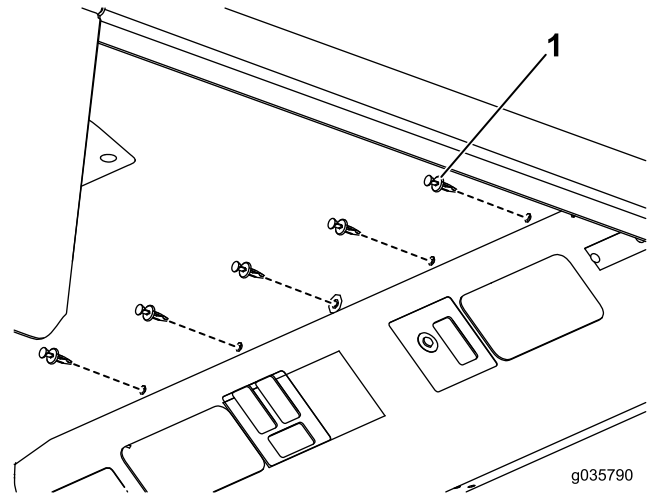

Figure 5
3. Secure the ceiling assembly in place using 10 rivets (Figure 5).